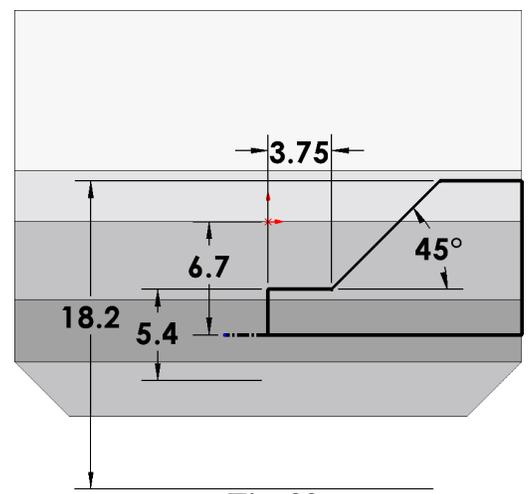

Fig. 22
Step 10. Click **Smart Dimension**  (S) on the Sketch toolbar.
Step 11. Add dimensions, **Fig. 22**. **Double distance the diameters**. To double distance dimension, click centerline and then top horizontal line, move the cursor below centerline and click. Key-in the diameter in the Modify box and press ENTER.